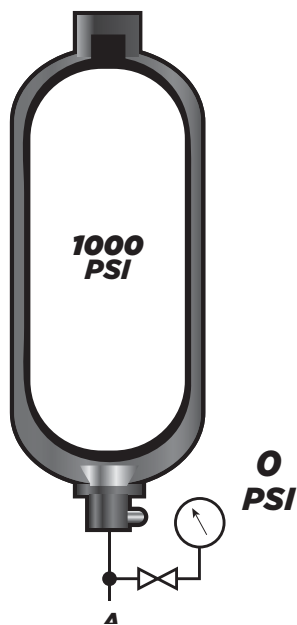

Figure 1. Bladder accumulator
Figure 1. This graphic shows (1) structured oil, (2) a “hole” pulled in gelated oil to an operating oil pump by atmospheric pressure, and (3) air being pumped to the engine’s lubrication sites.
With easier engine startability at low temperatures, another problem became evident – oil pumpability. This was a considerably more serious issue, as lack of oil pumpability could destroy the engine. In cold-room dynamometer tests, it was determined that there were two forms of the pumpability problem. The first was simply related to high viscosity and called flow-limited behavior. The second was less obvious and involved the gelling of the oil under a long, deep cooling cycle. This was labeled “air-binding,” since the oil pump became air-bound as the result of a column of oil being pulled from the sump and the oil not filling this void, as shown in Figure 1.
hydraulic circuit. It is the hydraulic equivalent of a capacitor in an electrical circuit. The two most common kinds of accumulators are the bladder and piston types. The bladder (Figure 1) is nothing more than a rubber balloon that separates the hydraulic oil from the dry nitrogen. Dry nitrogen is used to fill the inside of the bladder to a pre-charge level. The nitrogen pre-charge is usually half to two-thirds the maximum pressure in the system.